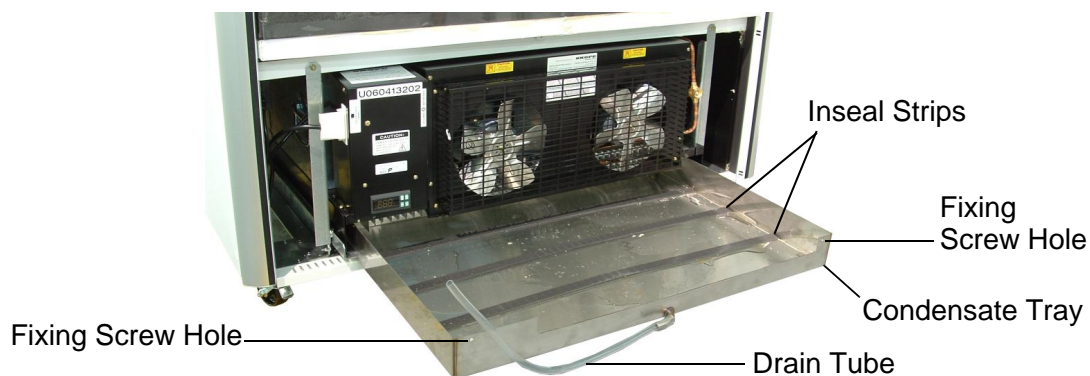

Figure 27: Removing the Condensate Tray
5. Carefully pull the condensate tray forward, out from the refrigeration unit. Allow the tray to drop down a small amount at the rear before pulling all the way out (see Figure 27 below).